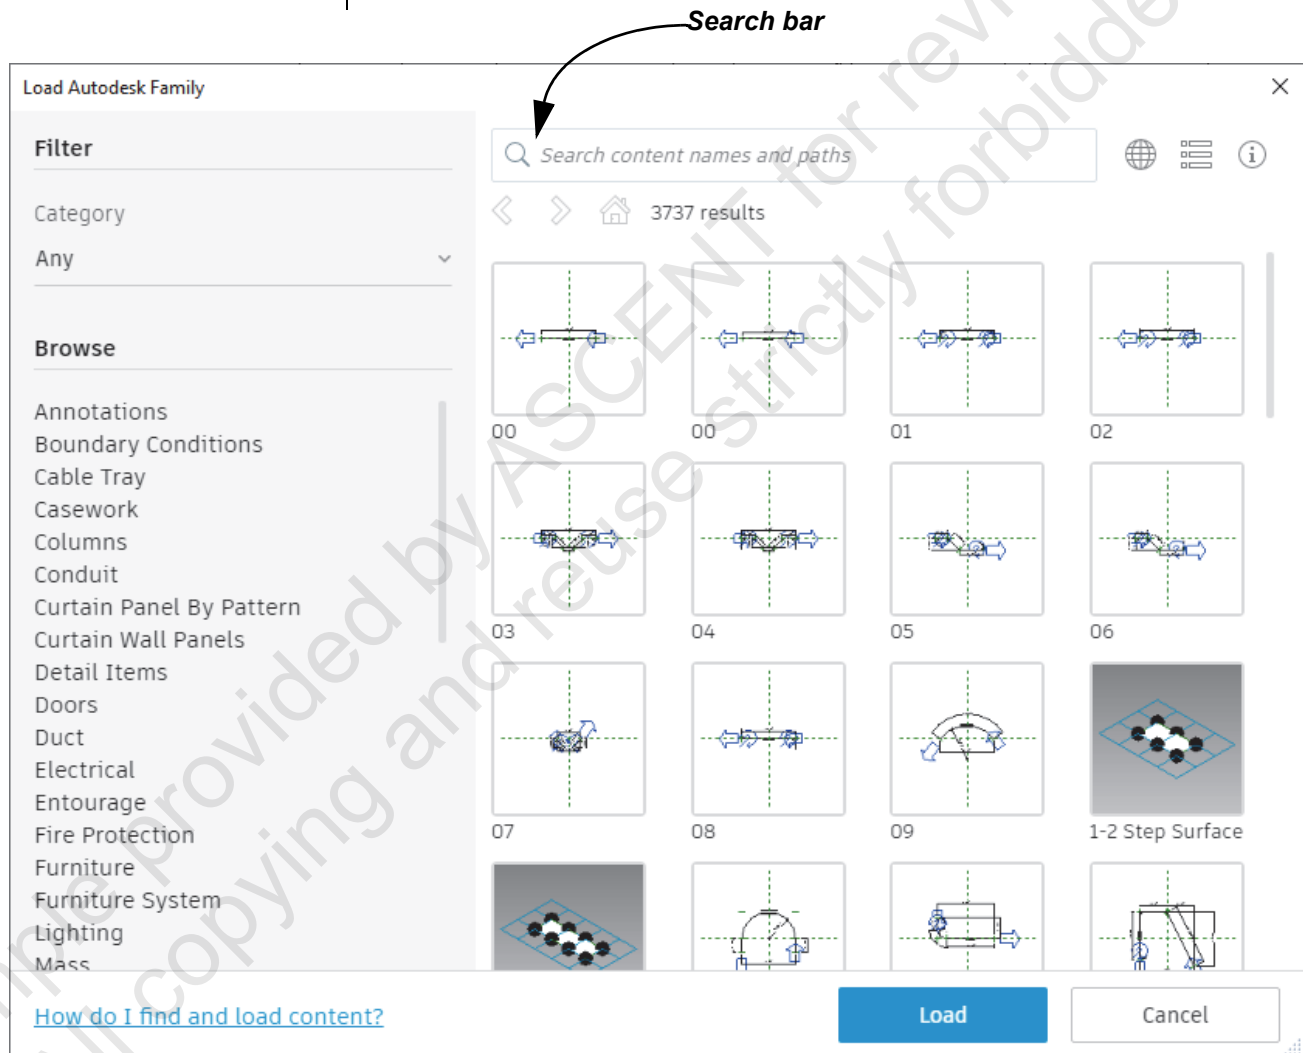

Figure 1–9
2. In the Load Autodesk Family dialog box, filter your search by typing in what kind of family you are looking for or click on a category in the *Browse* section, as shown in Figure 1–9.